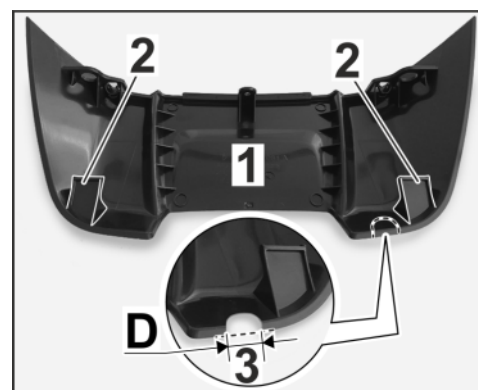

Figure 13
- 2.4 Make groove for wire harness for retainer plate in cover on antenna (⇒ *Figure 13*).